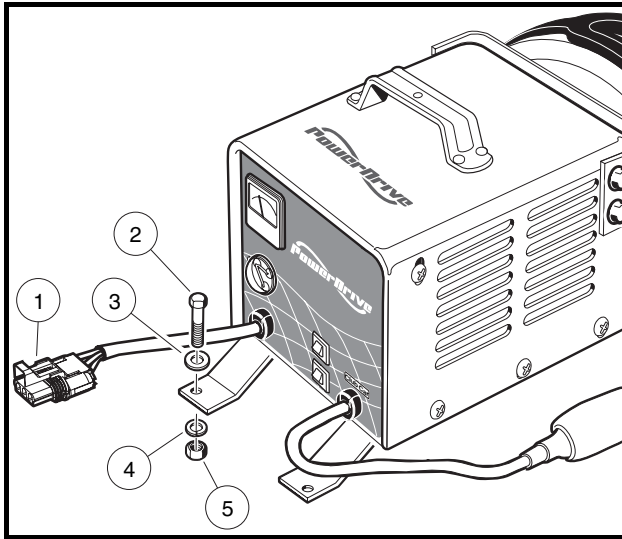

Figure 4-30 Onboard Charger Mounting – Precedent Vehicles
2. Disconnect the charger DC cord at the three pin connector (1) (**Figure 4-30, Page 4-37**).
3. Remove four bolts (2), flat washers (3), lock washers (4) and nuts (5) securing charger to chassis.